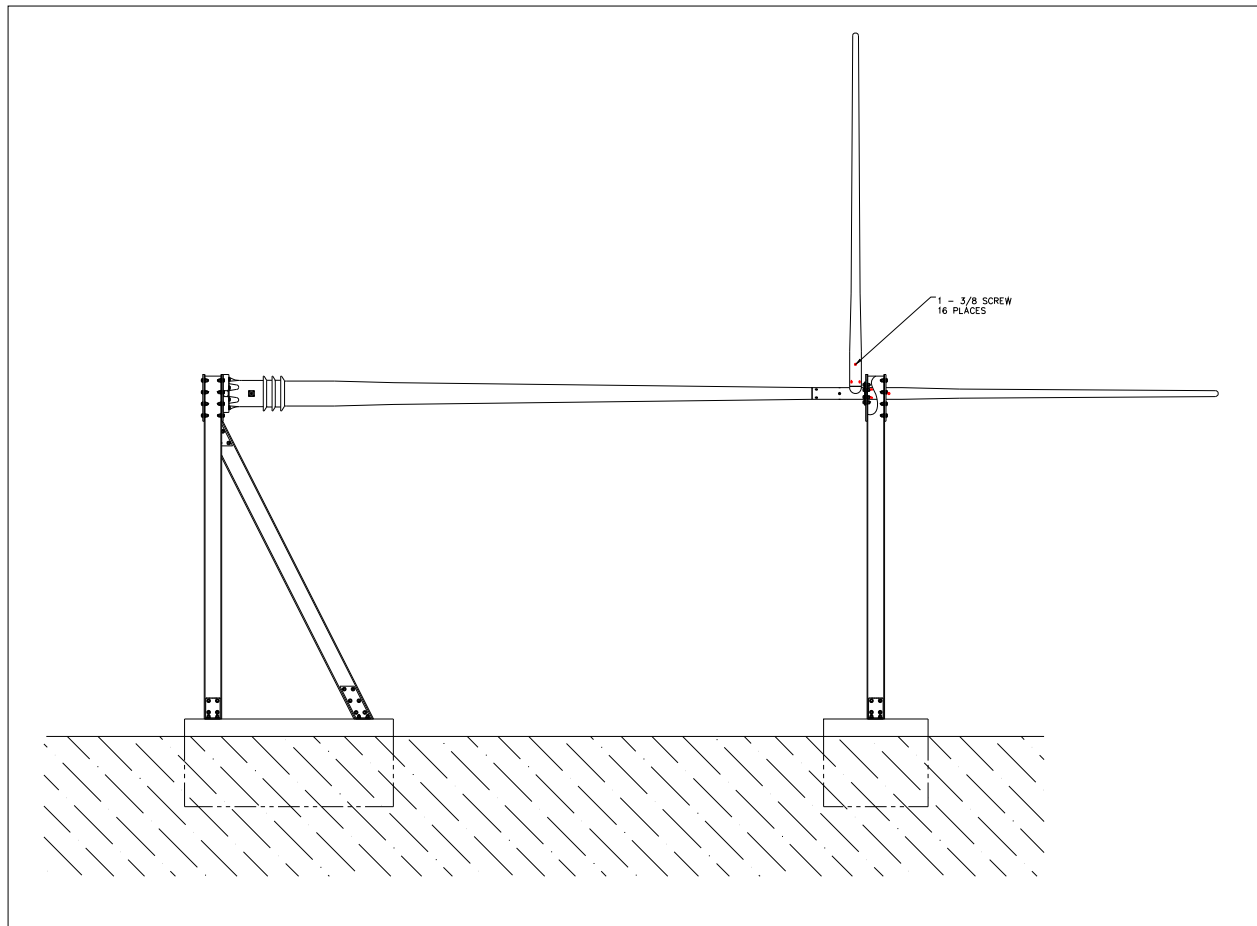

Figure 4-14 Assembly steps 18 and 19
- (18) Install one antenna whip section (Item 3, Table 2-1) to the horizontal sleeve of the sleeve adapter using eight of the 3/8" countersunk screws. Apply a film of anti-seize compound (Item 22, Table 2-1) to the mating surfaces of the antenna and adapter before assembly. A small amount of anti-seize on the screws can also be applied. Tighten the screws. Thread-locker is not necessary here. Refer to Figure 4-14
- (19) If provided, install the other antenna whip section (Item 3, Table 2-1) to the vertical sleeve of the sleeve adapter using eight of the 3/8" countersunk screws. Apply a film of anti-seize compound (Item 22, Table 2-1) to the mating surfaces of the antenna and adapter before assembly. A small amount of anti-seize on the screws can also be applied. Tighten the screws. Thread-locker is not necessary here. Refer to Figure 4-14.
- (20) Apply silicone sealant (Item 27, Table 2-1) over the heads of the counter-sunk screws